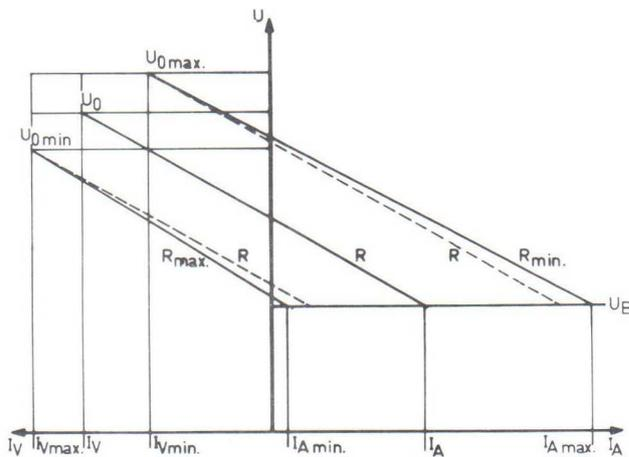

Fig. 9: Effect of all the circuit variations and tolerances: variations  $U_0$ ,  $I_V$ , tolerance  $R$ .
Figure 9 shows the combined effect of the variation of the supply voltage, the variation of the load current and the tolerance of the resistor  $R$  on the tube current. The stabilizing circuit should be designed in such a way that the resulting minimum and maximum values of the tube current will lie within the limits given by the data sheet.
Figure 9, 12 and 13 show that four conditions must be fulfilled for correct operation of a stabilizer tube. These conditions are defined by the following expressions:
a) The tube current must be higher than the minimum anode current (figure 9).